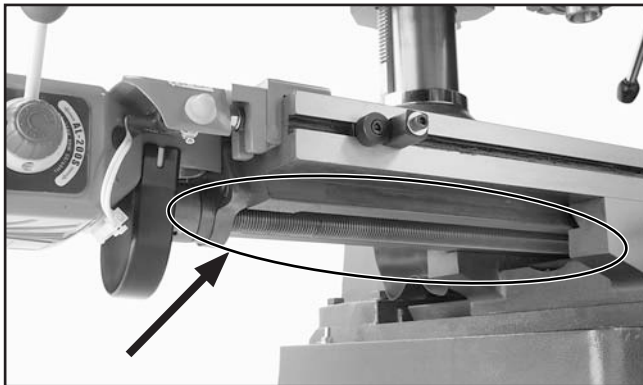

Figure 65. Leadscrew lubrication location (left side shown).
2. Use a wire brush, rags, and mineral spirits to remove built-up grime and debris from the leadscrew (Figure 65).